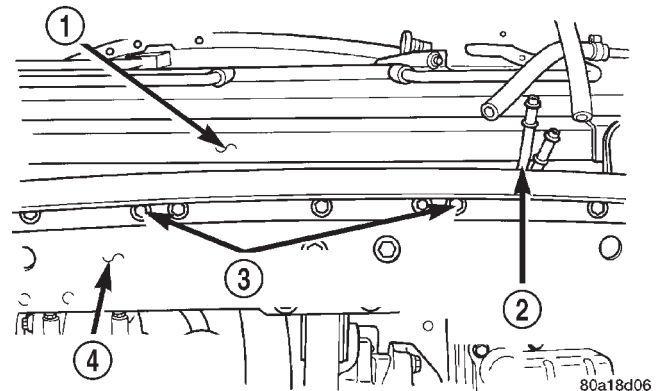

Fig. 17 Power Steering Fluid Cooler Attachment
(3) Remove the 2 bolts (Fig. 17) attaching the power steering fluid cooler to the radiator lower crossmember (Fig. 17).
(1) Install tabs on mounting brackets into the holes in the radiator lower crossmember. Then rotate cooler upward into position on crossmember.
(2) Install the 2 bolts (Fig. 17) attaching the power steering fluid cooler to the radiator lower crossmember. Tighten the attaching bolt to a torque of 7 N·m (60 in. lbs.).